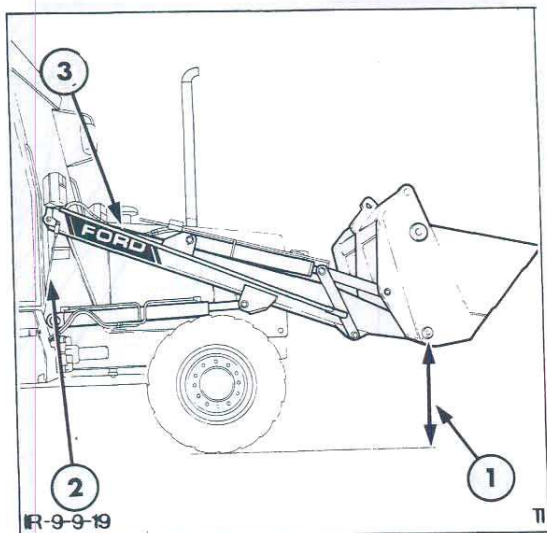

Figure 19
3. Raise the loader arms upwards until the loader bucket pivot pin is 875mm – 925 mm (34 in – 36 in) above the ground. Figures 19 and 20.
5. Adjust the vertical linkage rod such that when re-connected the loader arm tube touches the end of the loader arm rod clevis. Refer to Figure 19.